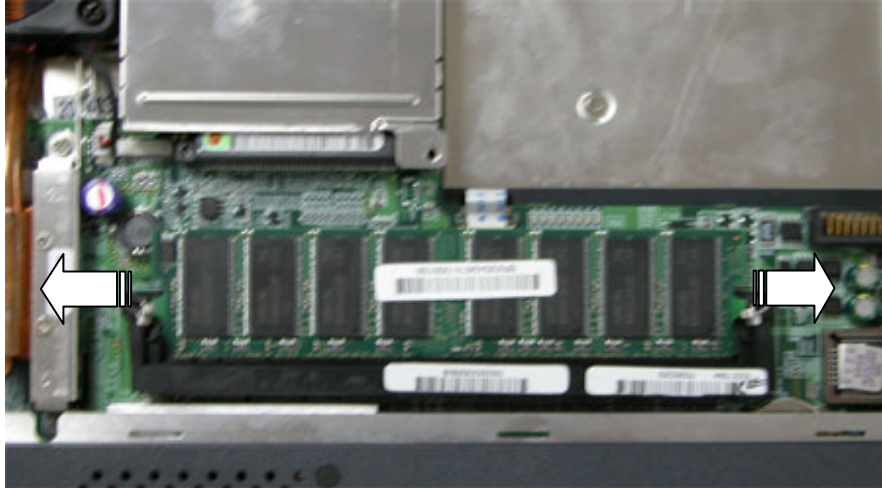

Fig. 3 Removing the memory module
1. Unclip the memory module as shown in Fig. 3